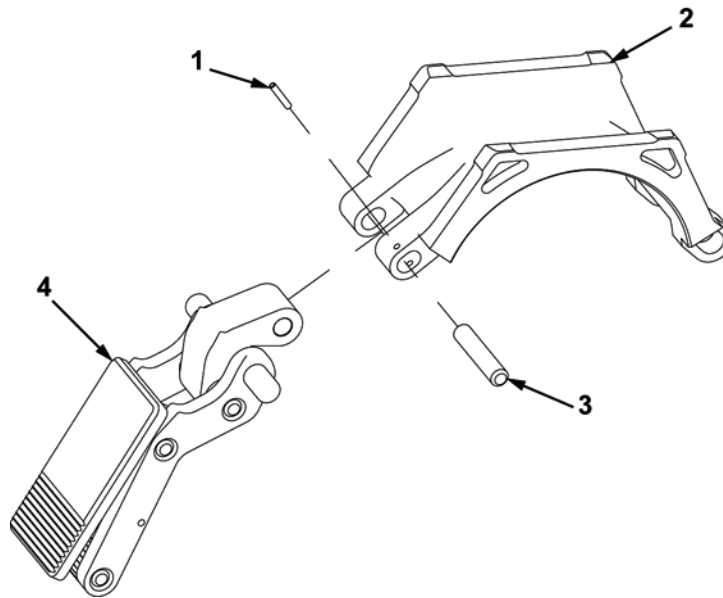

Figure 8. Assembly of Clamp Assembly.
9. Align hole in clamping catch (Figure 8, Item 4) with holes in upper clamp (Figure 8, Item 2).
10. Install new parallel pin (Figure 8, Item 3) through clamping catch (Figure 8, Item 4) and upper clamp (Figure 8, Item 2).
11. Install new spring pin (Figure 8, Item 1) through upper clamp (Figure 8, Item 2).